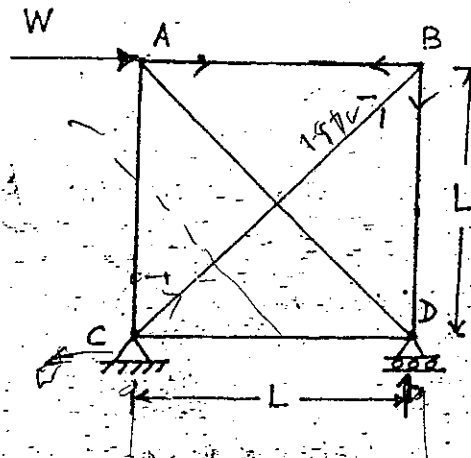

Fig 4.
- b) A truss as shown in fig. 4 is loaded by a horizontal force W at joint A. The cross sectional areas and materials of all the members are same.